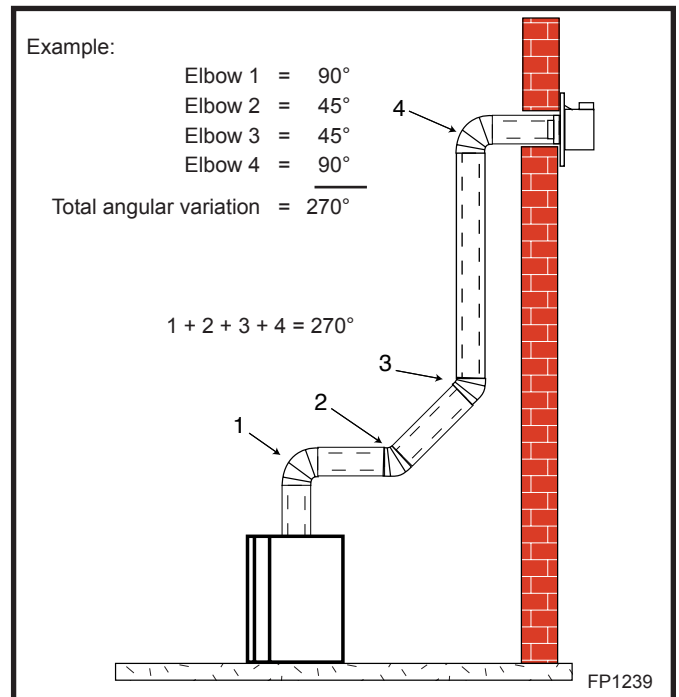

Fig. 14 Maximum number of elbow degrees.
- The maximum number of elbow degrees in a system is 270°. (Fig. 14)